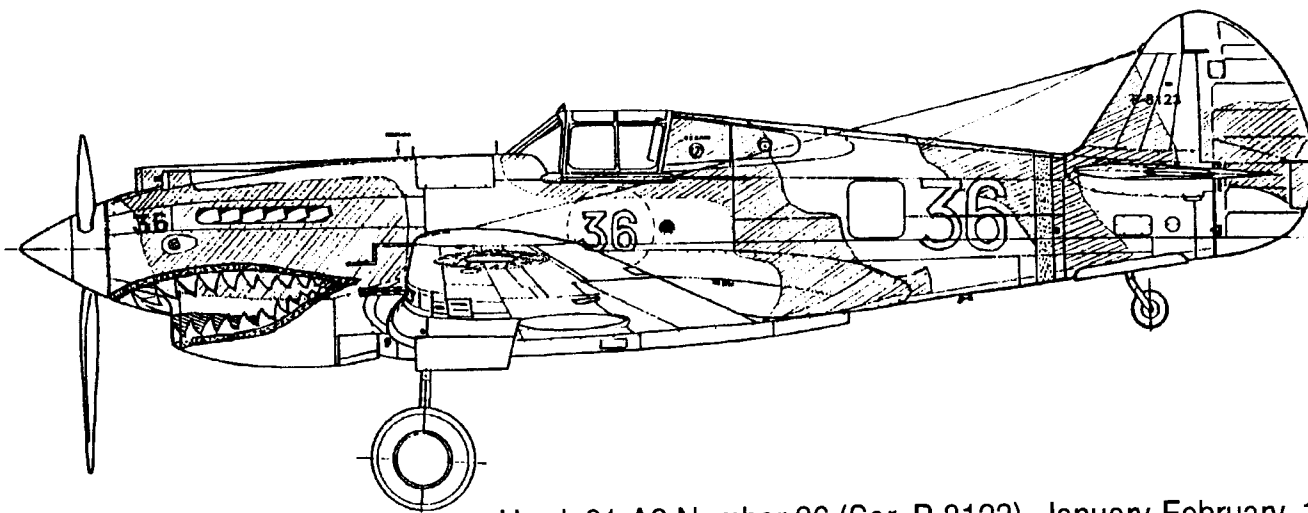

Figure 3
**Figure 3. Hawk 81-A2 number 36 (serial P-8123), January-February, 1942:** This aircraft was assigned to Edward Rector, vice squadron leader of the Second Squadron. It was also used for reconnaissance missions with wing guns removed and a camera installed in the rear fuselage. Camouflage pattern on the fin is unknown, but that shown is a common one. Like several other aircraft (including #74 and #75), this plane had an unusual fuselage number under the cockpit. It cannot be confirmed if the typical AVG rear fuselage number was also used while this smaller fuselage number was in place, however. All numbers were white. Fuselage band was blue. Shark head design included probable blue lips with red tongue and white teeth, with camouflage showing through inside the "mouth." White eye with probable blue pupil. No pilot inscription, kill marks, squadron insignia or Disney tiger decals are documented for this aircraft. Wheel covers unknown, but were either Aircraft Gray, Dark Earth, or Neutral Gray. This aircraft was reassigned to the Third Squadron in April or May, 1942. In photos taken after that time only the standard large rear fuselage number is seen, with both the cockpit and nose numbers painted out with dark green paint. The fuselage band was repainted red, and the Third Squadron's red, white and blue pinwheels